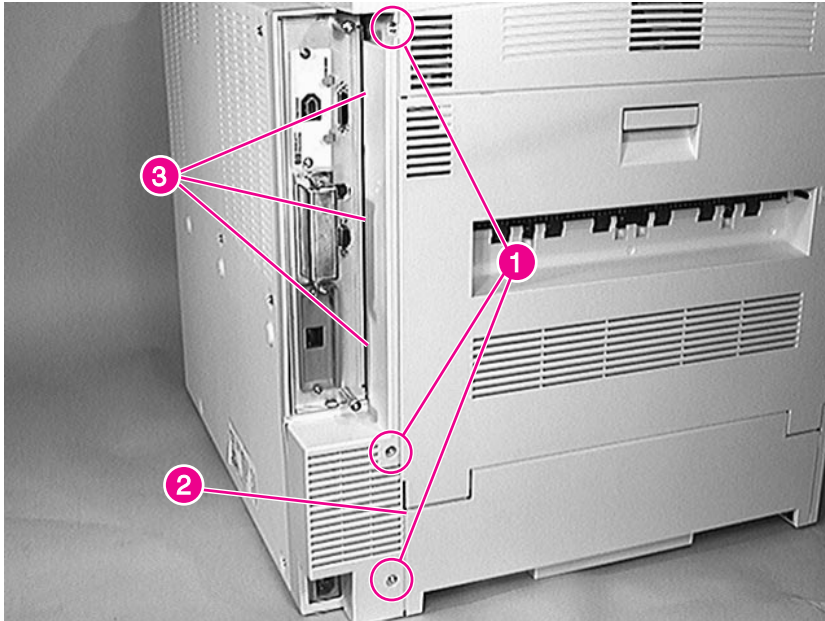

Figure 6-5 AC Access Cover
- 2 Remove 3 screws (figure 6-5, callout 1).
- 1 Insert the panel edge (figure 6-5, callout 2) inside the back cover (if installed).
- 2 Be sure to insert the three alignment tabs (figure 6-5, callout 3) into their slots before replacing the screws.
- AC Access Cover (see figure 6-5 on page 218)